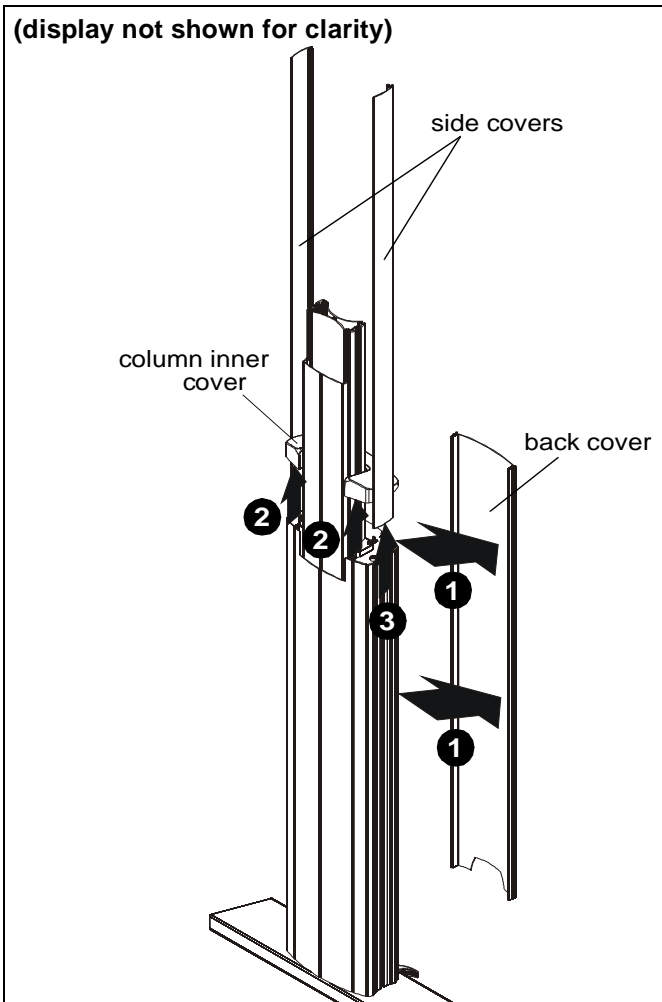

Figure 1
1. Remove back cover from cart/stand. (See Figure 1)
2. Remove column inner cover from cart/stand. (See Figure 1)
3. Remove side cover from cart/stand by sliding it up the side channel on the side where the CPU holder will be installed. (See Figure 1)